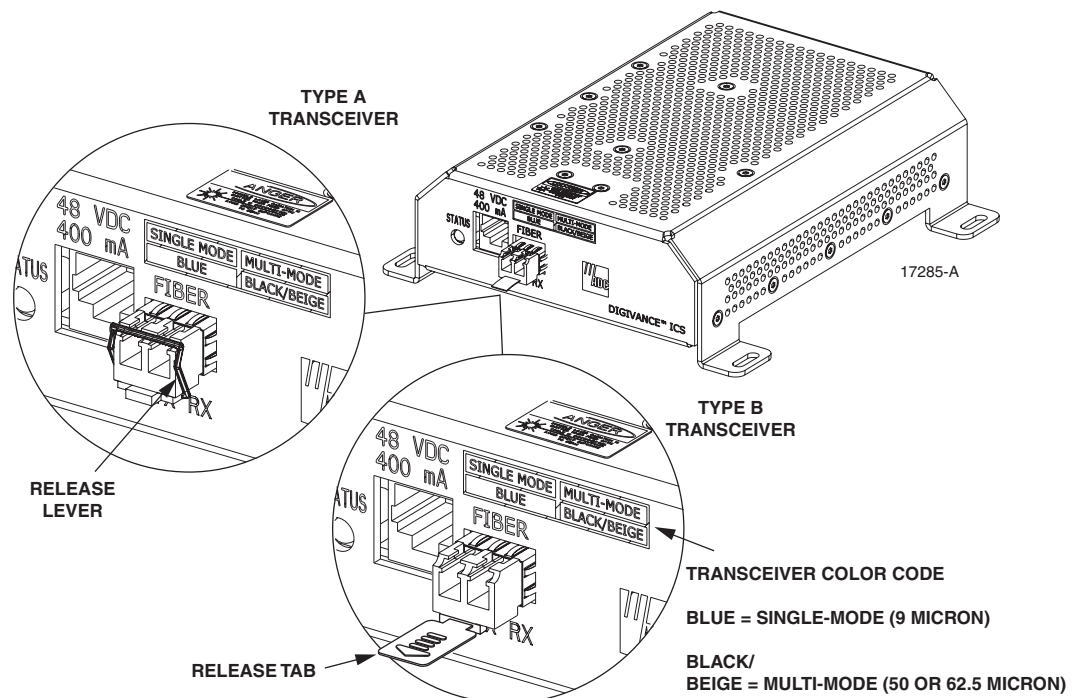

Figure 35. DRU Optical Transceiver Removal
5. Release the optical transceiver from the transceiver socket by pulling outward on the release lever (if type A) or release tab (if type B) as shown in Figure 35.
7. For replacement, select an optical transceiver that corresponds to the type of fiber (single- or multi-mode) used in the installation. The color of the transceiver corresponds to the fiber type (see Figure 35).